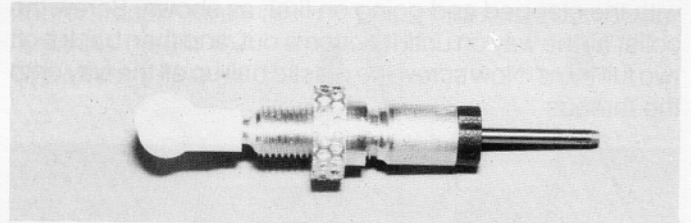

**Fig. 44**
□ **Figs. 44 & 45**—Push the piston and shaft assembly slowly down into the cylinder. Trim the flash off of the plastic end cap. Now slip the spring and plastic end cap onto the shaft. BE CAREFUL HERE. Screw the plastic end cap only two turns into the cylinder, SLOWLY, as shown in Fig. 44.